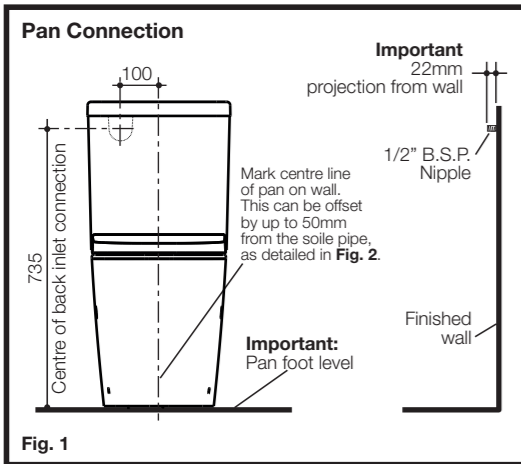
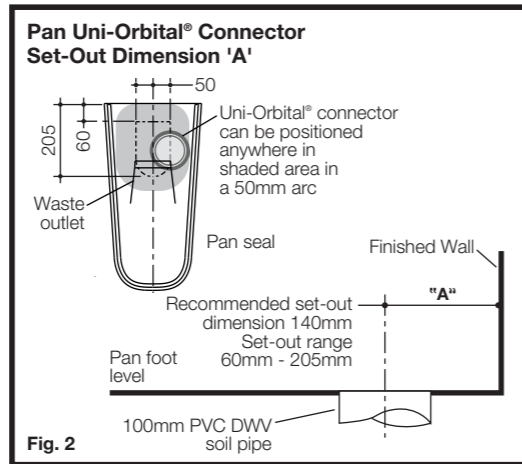
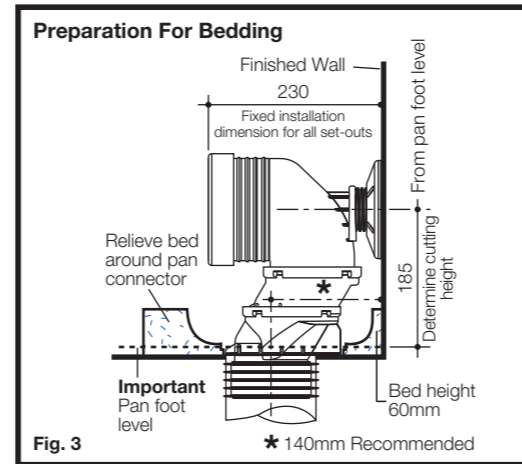
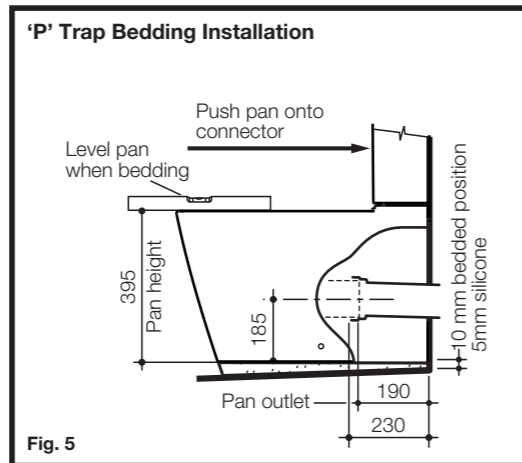

Fig. 1
Fig. 2
Fig. 3
Fig. 5
The Luna Square Cleanflush pan is universal for both 'S' and 'P'-Trap installations as detailed. The recommended set-out for 'S'-Trap installations is 140mm from the finished wall with set-out flexibility for existing soil pipe positions ranging from 60mm to 205mm and 50mm sideways adjustment with the Uni-Orbital® connector supplied, as detailed in Fig. 2.
- 1- Mark centre line of the pan on finished wall, as detailed in Fig. 1. This is to be used as a guide when connecting the pan. The centre line can be offset by up to 50mm from the soil pipe, as detailed in Fig. 2.
- 2- Determine set-out "A" of existing pan connector, as detailed in Fig. 2. Set-out range 60mm - 205mm. Recommended set-out 140mm, as detailed in Fig. 3. For 'P' trap installation see Fig. 5.
- 4- Prepare bedding sand cement mixture 3:1 to depth of 60mm as detailed in Fig. 3. **Note:** Do not fill the foot of the pan with bedding mix or include lime or fast drying cement into the mix, these may cause cracking in the foot of the pan.